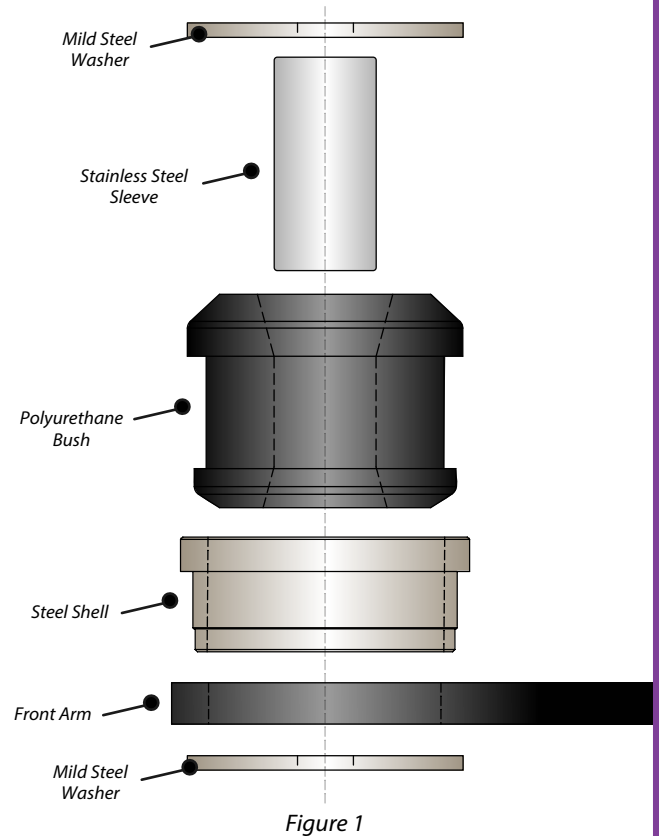

Figure 1
5. Fit the washers on the tops and bottom faces of the bush, see Figure 1.